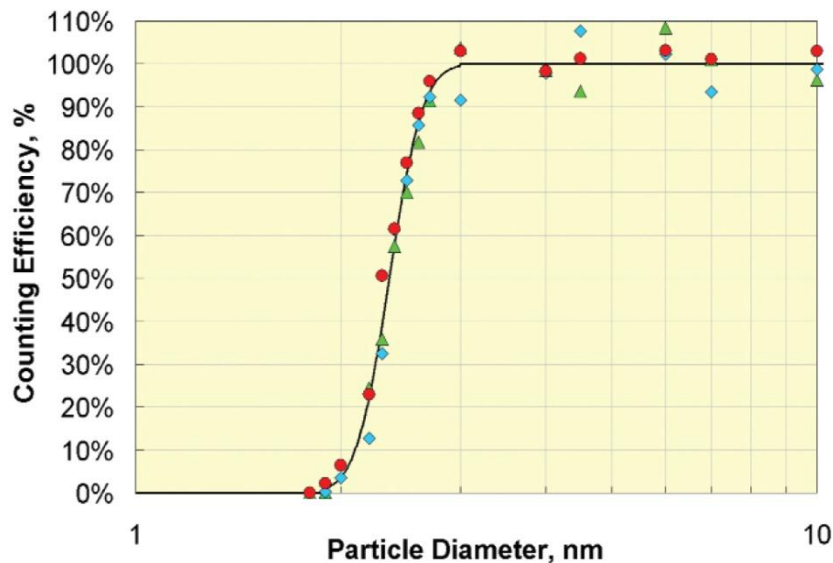

Figure 2: CPC Model 3776 counting efficiency curve using monodisperse sucrose aerosol as the challenge aerosol and an electrometer as the reference detector.
2. **Minimum Detectable Particle Size**—The minimum detectable particle diameter of a CPC can be described with a detection efficiency curve where the CPC counting efficiency versus a standard is plotted as a function of particle diameter (Figure 2). A steeper curve is generally preferred, so the counting range of the CPC can be more precisely defined. The minimum detectable particle size is commonly defined as the diameter at which 50% of the particles are detected by the counter ( $D_{50}$ ). Typically, a lower detectable particle size is associated with a more complex instrument. The primary factors affecting the  $D_{50}$  are: